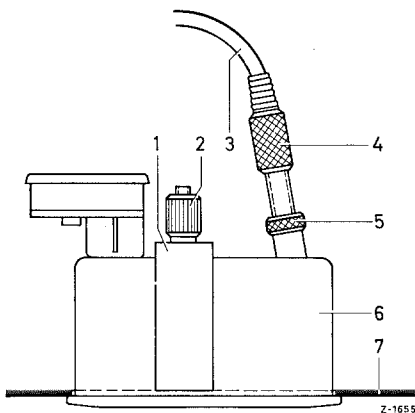

Fig. 27-3/2
The selector lever indication is set to selector lever position "N." The bowden wire (3) from the shifting tube to the selector lever indication can be adjusted lengthwise by means of a knurled nut (4) on selector lever indicator. For this purpose, loosen counter nut (5) and tighten again following adjustments (Fig. 27-3/2).